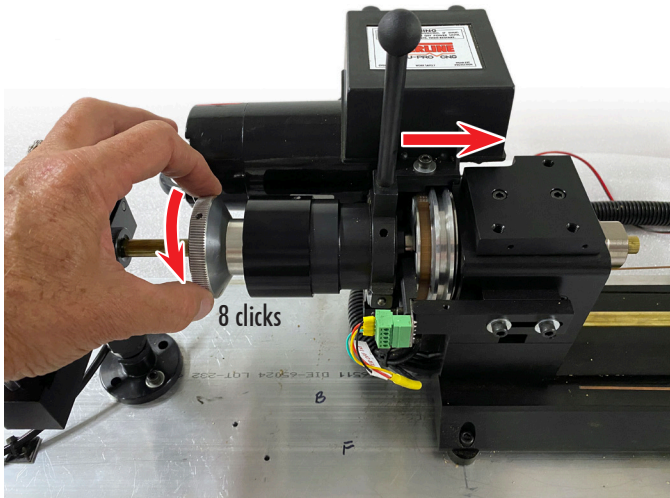

FIGURE 4
F. Now, with the collet open, turn the draw bar knob (P/N 30018) clockwise (8) “clicks” (see Figure 4).